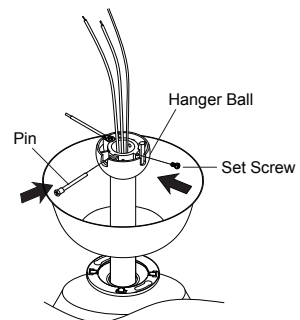

Fig. 9
**Step 6.** Carefully reinstall the hanger ball on the downrod as follows. Route the wires through the hanger ball. Position the pin through the two holes in the downrod and align the hanger ball so the pin is captured in the groove on the top of the hanger ball. Pull the hanger ball up tight against the pin. Securely tighten the set screw in the hanger ball. A loose set screw could cause fan wobble. (Fig. 9)